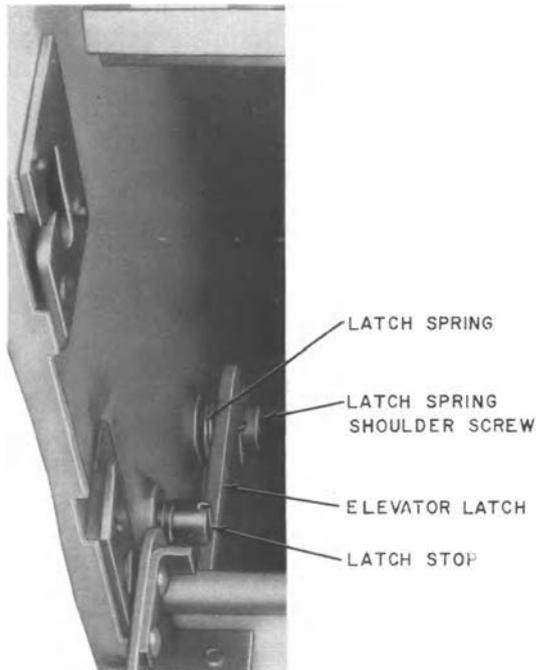

Fig. 41—Elevator Latch Spring
3.43 Elevator Latch Spring: To replace the elevator latch spring (Fig. 41), proceed as follows.